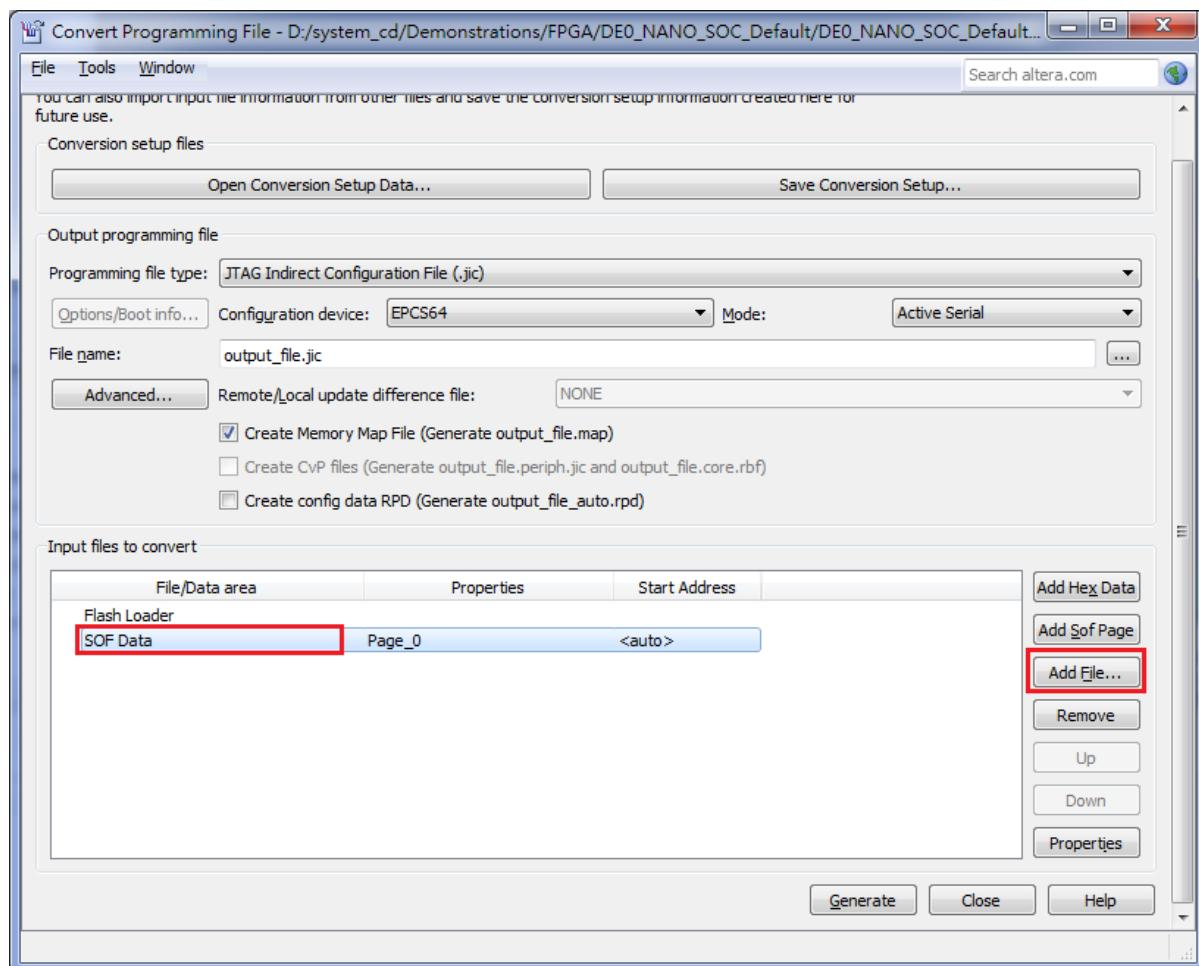

Figure 8-3 Dialog of “Convert Programming Files”
7. Click on the **SOF data** in the section of **Input files to convert**, as shown in Figure 8-3.